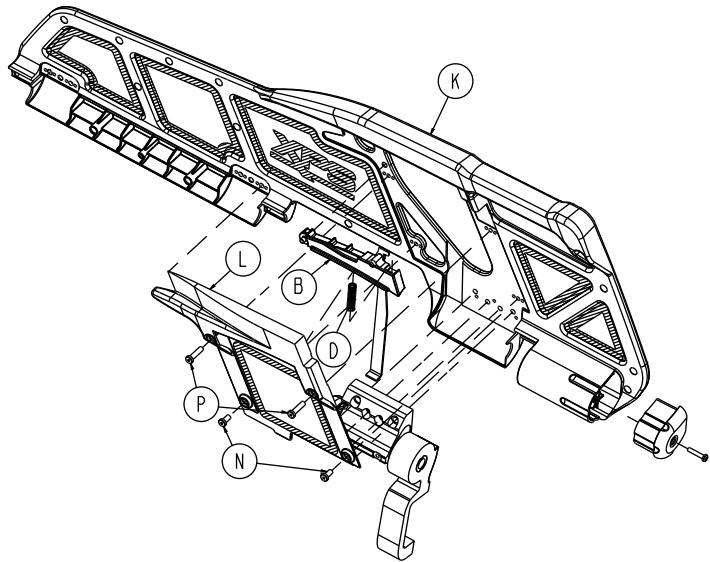

Figure 24 – Release/spring handle assembly components (XPS)
5. Using a 3/32" hex wrench, remove the four socket head cap screws (N and P) that secure the release cover (L) to the overmold assembly (K) (Figure 24). Remove and save the release cover. Save the screws.
6. Using a small slotted screwdriver, pry the handle spring (D) up. Remove and save the spring.
7. Grasp the handle assembly (B) and lift the handle spring side to remove from the cover. Discard the handle assembly.
6. Using a small slotted screwdriver, pry the handle spring (D) up. Remove and discard the spring.